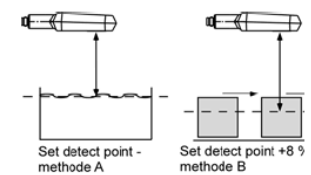

Fig. 3: Setting the detect point for different directions of movement of the object
- If the object to be scanned moves into the detection area from the side, the »Set detect point +8 % – method B« Teach-in procedure should be used. In this way the switching distance is set 8 % further than the actual measured distance to the object. This ensures a reliable switching distance even if the height of the objects varies slightly, see fig. 3.